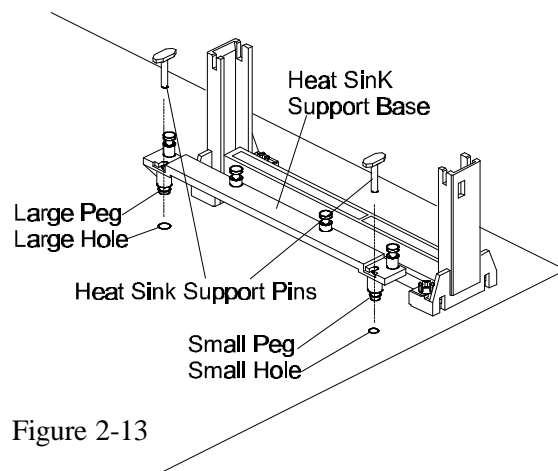

Figure 2-13
2. There are two plastic pegs on the bottom of Heat Sink Support Base (HSSBASE) bar. Mount the two black plastic pegs onto the mainboard. Notice that one hole and the bar of one peg are larger than the other hole and peg. (Refer to Figure 2-13)
3. Insert the Heat Sink Pins (HSSPIN) through the HSSBASE to secure it to the mainboard. (Refer to Figure 2-13)